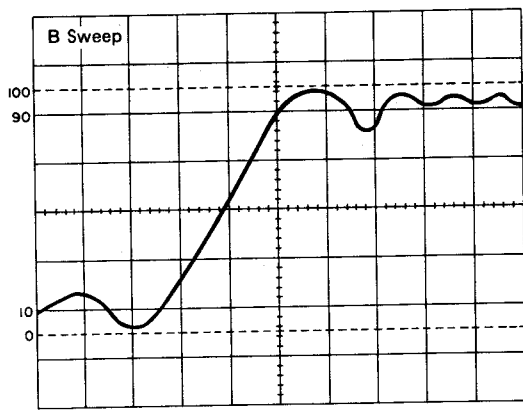

Fig. 14 Magnified view of intensified zone above
2. Depress the HOLD OFF control (26) (AFTER DELAY) and set the HORIZ MODE to ALT. Adjust TRACE SEPARATION (27) for easy observation of both the A and B traces. The upper trace is the non-magnified portion of the waveform with the magnified portion super-imposed as an intensified section. The lower waveform is the intensified portion displayed magnified.
3. The Δ REF/DELAY TIME POSITION (35) control can be used to continuously slide the magnified portion of the waveform across the A sweep period to allow magnification of precisely the desired portion of waveform.
4. Set the HORIZ MODE to B to display the INT intensified portion as a magnified B sweep. (Fig. 14)
5. For Starts AFTER DELAY operation, apparent jitter increases as magnification increases. To obtain a jitter free display pull the HOLD OFF control out. In this "Triggerable After Delay" mode the A trigger signal selected by the SOURCE switch (29) becomes the B trigger source.